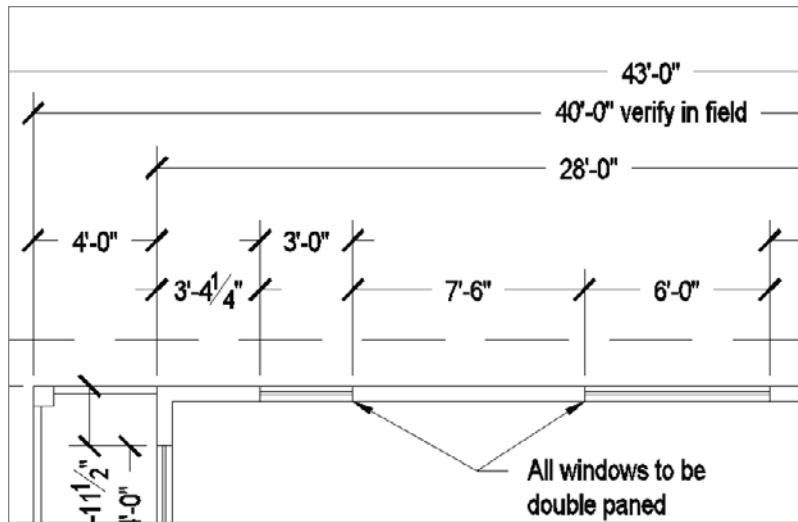

FIGURE 12.56 The result of zooming into the upper-left side of the floor plan
1. Zoom into a view of the upper-left side of the floor plan until you have a view similar to Figure 12.56 that includes the left window and the top of the rear deck and their dimensions.